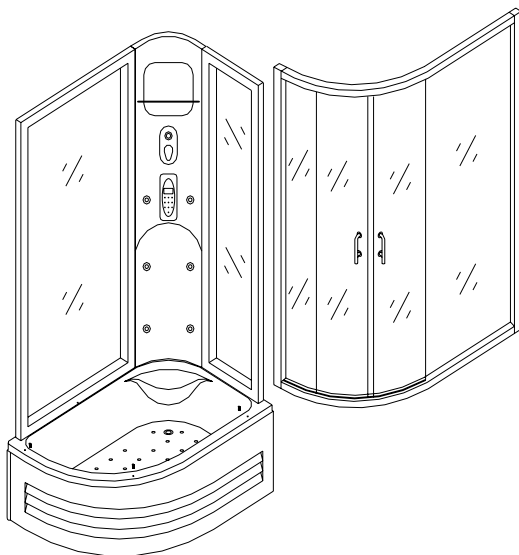
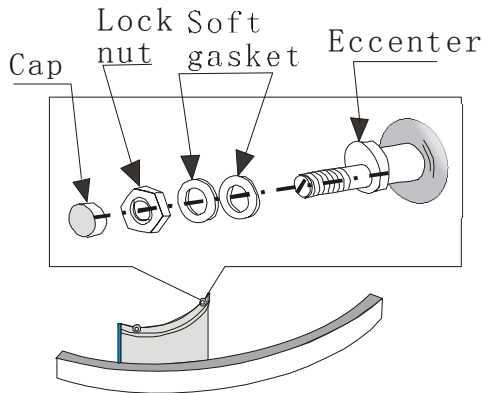

Fig.4
Fig.5
- 4) Install the glass assembly: (a) Install the lower rail — Put two side pillars on foam cloth, connect the lower rail with the under parts of the two side pillars, fasten them tightly with four ST4x25 tapping screws from the side of the pillars. (b) Install the fixed glass and the upper rail — Make two fixed glass inserted in the notch of the two side pillars and the lower rail respectively, and connect the upper rail with the upper parts of the two side pillars, fasten them tightly with four ST4x25 tapping screws from the side of the pillars. (c) Install the sliding glass door — Penetrate the eccentric wheel into the holes of the sliding door, there must be soft gaskets at both sides, tweak the screw nut slight tightly, And then hang up the sliding door to the notch of the upper and the lower rail. And adjust eccentricity to make the sliding door vertical and sliding free, screw down the nut tightly, and make up the glass assembly. Insert the glass assembly's notch in the wall assembly and, connect with the bathtub by 3 ST4x20 tapping screws, don't tighten them either for the moment. As fig.4, fig.5